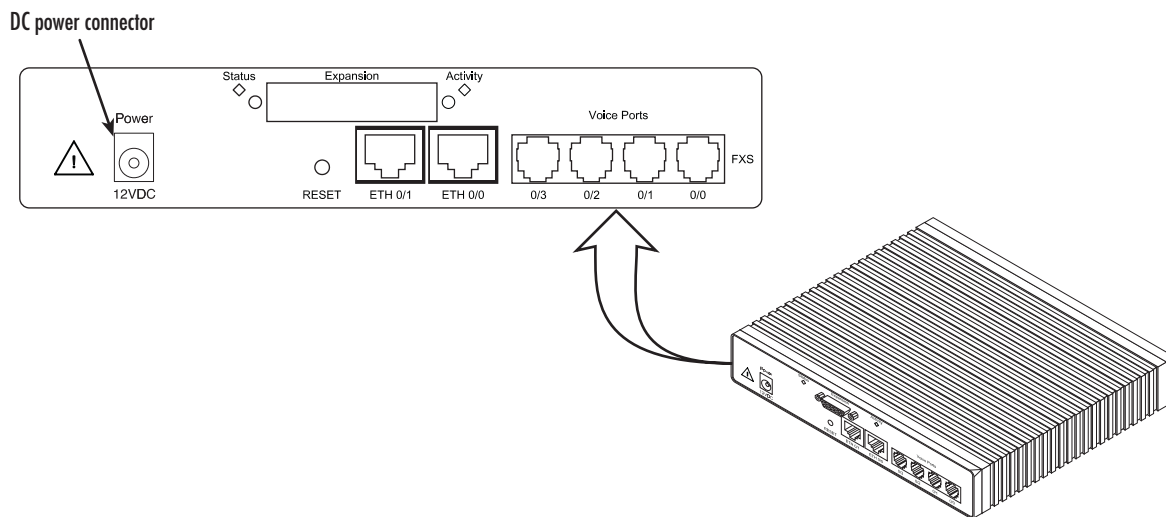

Figure 17. Power connector location on rear panel
1. If your unit is equipped with an internal power supply, go to step 2. Otherwise, insert the barrel type connector end of the AC power cord into the external power supply connector (see figure 17).
2. Insert the female end of the power cord into the internal power supply connector (see figure 17).